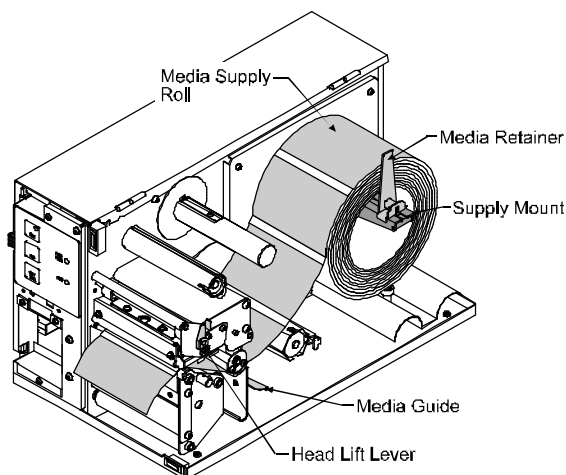

Figure 1-8 Media Routing
5. Insert the label stock as shown in Figure 1-8.